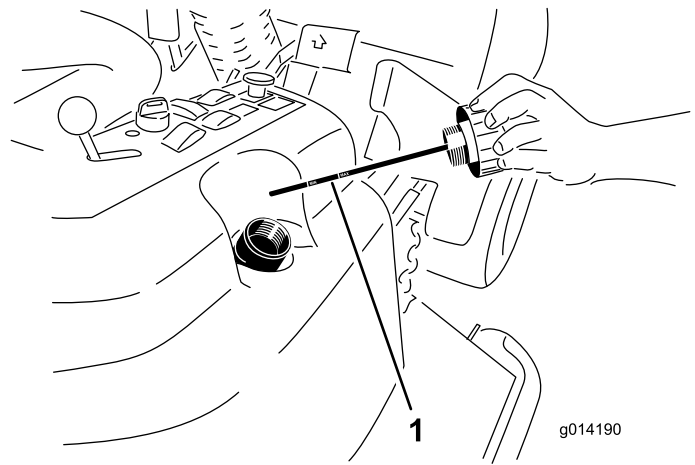

Figure 62
2. Remove the hydraulic fill cap (Figure 62) from filler neck.
3. Remove the dipstick and wipe it with a clean rag (Figure 62).
4. Screw the dipstick all the way into the filler neck; then remove it and check level of fluid (Figure 62).